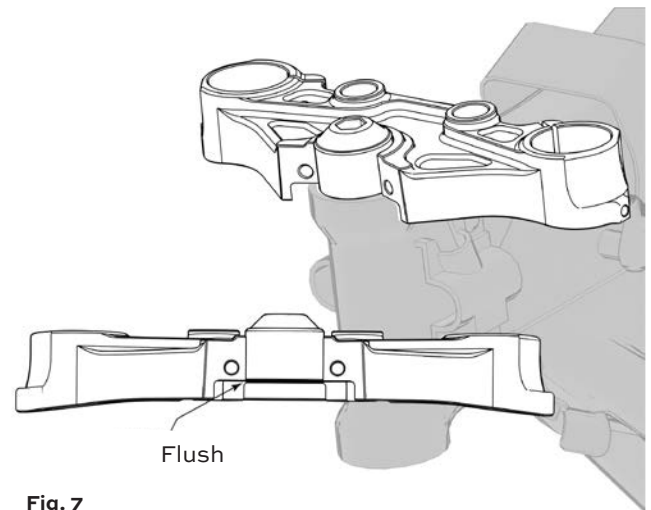

Fig. 7
12. Ensure top nut is flush with bottom of tree. **(See fig. 7)**